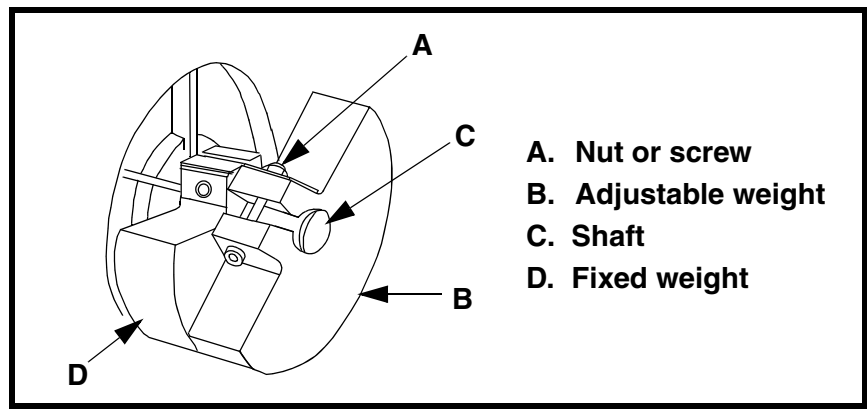

Figure 2. Adjusting Eccentric Weights
3. Loosen nut or screw (A, Figure 2) so adjustable weight (B) will rotate around shaft (C).